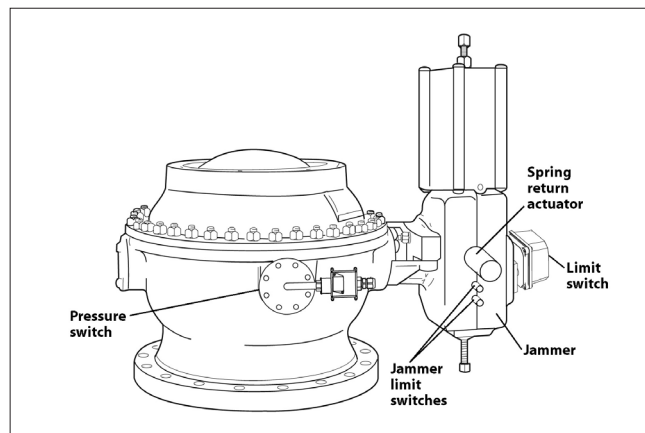

Fig. 3. Mechanical jammer device
- Mechanical jammer device (Fig. 3) is built in the actuator housing, jammer mechanism prevent the actuator piston rod to move when valve is close position. The jammer is guided by spring return actuator, limit switches and solenoid valve.